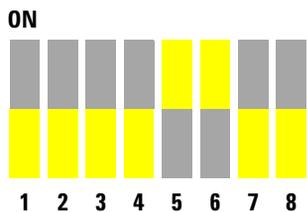

Figure 4 Switch settings to initiate with default settings
- 2 Set configuration switches 5 and 6 to **ON** so that the card initiates with default settings. See Figure 4.